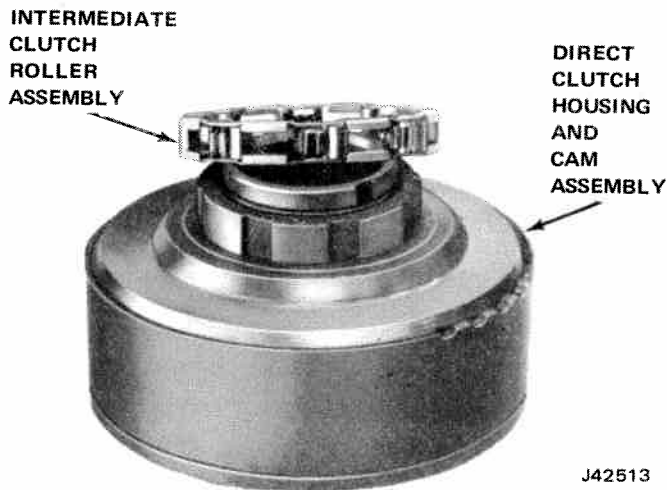

Fig. 7-83 Installing Roller Assembly
(11) Place roller assembly and outer race on housing with a clockwise rotary motion (fig. 7-83, -84).